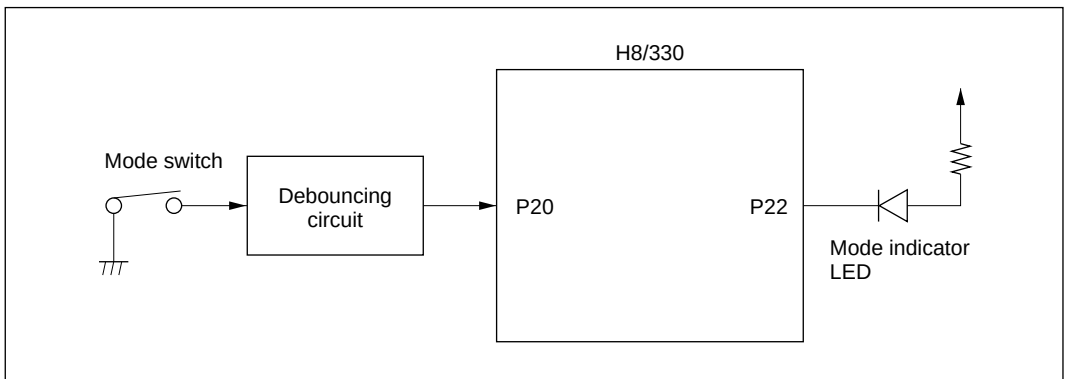

Figure 1 Power-Down Mode Test Board
1. This sample task runs the H8/330 in power-down mode (sleep mode) using the test board shown in figure 1.